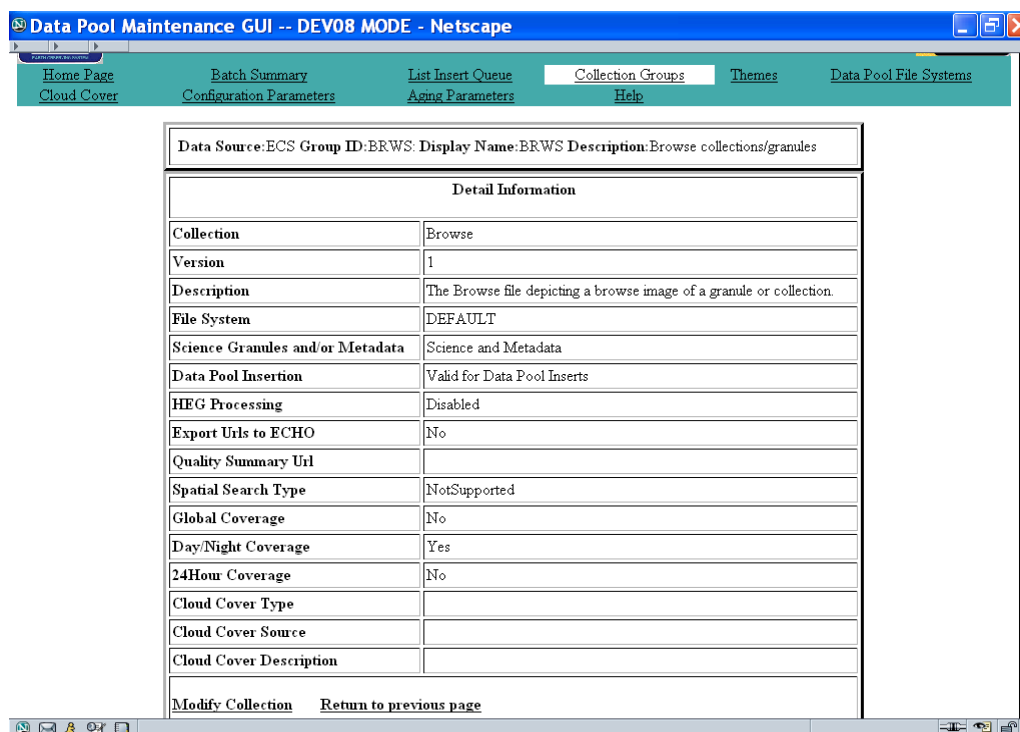

Figure 14.10-16. Collection Detail Information Page
At the bottom of the **List of Collections** page, there is a link that permits a full-capability operator to **Add New Collection** or **Delete a Collection**. A click on one of the **Collection (Click for Detail Information)** ID links brings up a collection **Detail Information** page (Figure 14.10-16) listing the same information for the collection as was displayed on the **List of Collection** page plus some additional information. The additional information includes a **Description**, **File System**, **Cloud Cover Type**, **Cloud Cover Source**, and **Cloud Cover Description**.
- The **Detail Information** page (see Figure 14.10-16) for the selected collection is displayed.